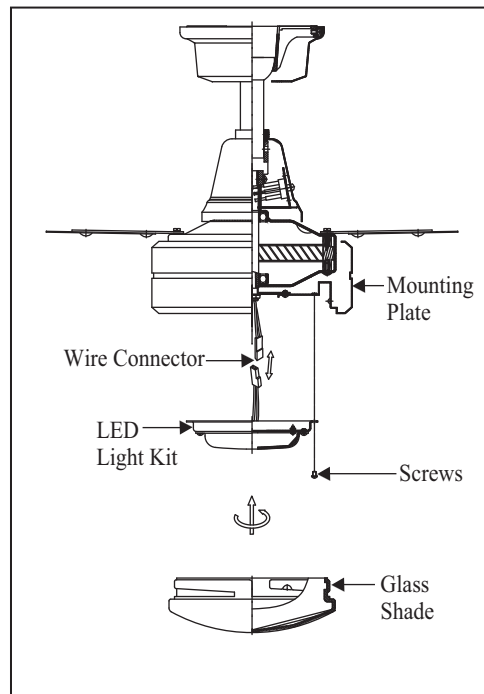

Figure 19
1. Remove the 1 of 3 screws from the posts of the mounting plate and keep it for future use. Loosen the other 2 screws. (Do not remove) (Fig. 19)
3. Place the key holes in the LED light kit over the two screws previously loosened from the mounting plate. Turn the LED light kit until the LED light kit locks in place at the narrow section of the key holes. (Fig. 19)
4. Securely tighten the two light kit mounting screws previously loosened and the one previously removed. (Fig. 19)
5. Raise glass shade up against the LED light kit, and secure it to fan by turning glass clockwise until snug. DO NOT OVERTIGHTEN. (Fig. 19)